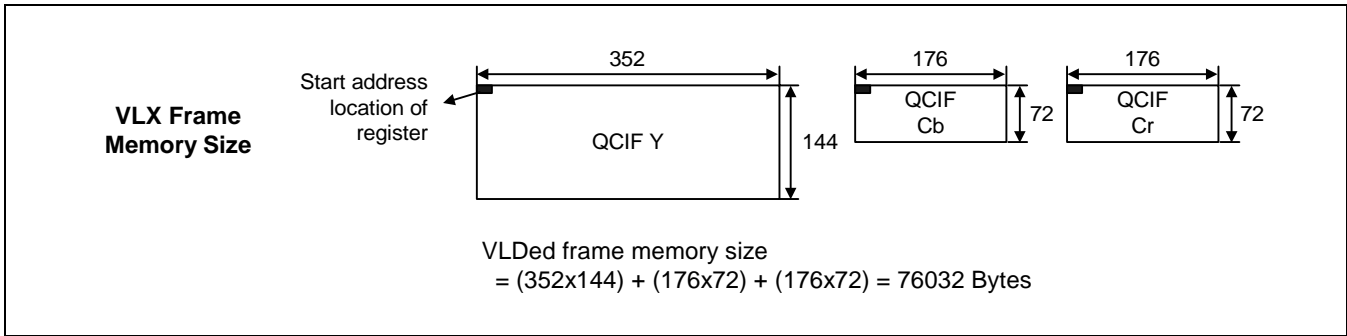

Figure 26-7. External Memory Amount in VLD Mode.
Decoded coefficient data saved external memory Y image, Cb image, and Cr image. Figure 26-7 is example external memory amount. So special function register `Y_START_ADDR`, `CB_START_ADDR`, `CR_START_ADDR` must be set.
- VLD output is saved image format in external memory. Figure 26-7, 26-8 show the external memory